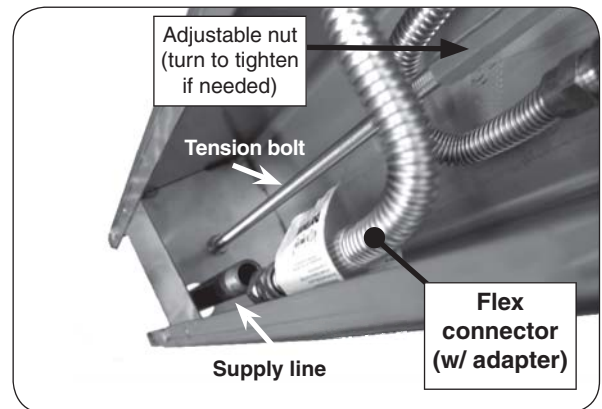

Fig. 14-2 Post interior detail
2. Verify that the gas supply line fits through the gas line clearance hole in the bottom of the post (see Fig. 14-2). The clearance hole is the larger of the two holes in the bottom of the post and is off center.